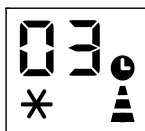

Fig 22
- Press several times until the corresponding time is displayed. Wait about 5 seconds, the timer will be active, then only the  symbol is displayed on screen.(fig 22)